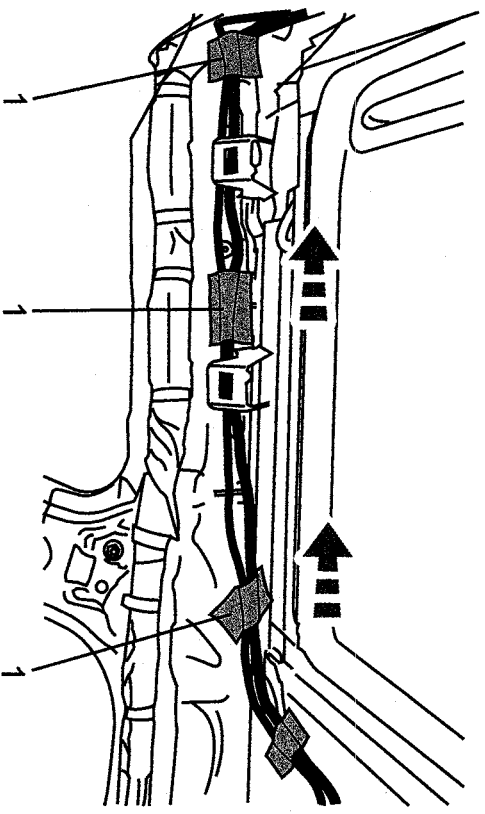

FIGURE 57
- 7.) ROUTE THE DVD MAIN HARNESS TOWARDS THE FRONT OF THE VEHICLE AND ABOVE THE AIRBAGS. SECURE WITH THREE PIECES OF TAPE (1). (SEE FIGURE 57)